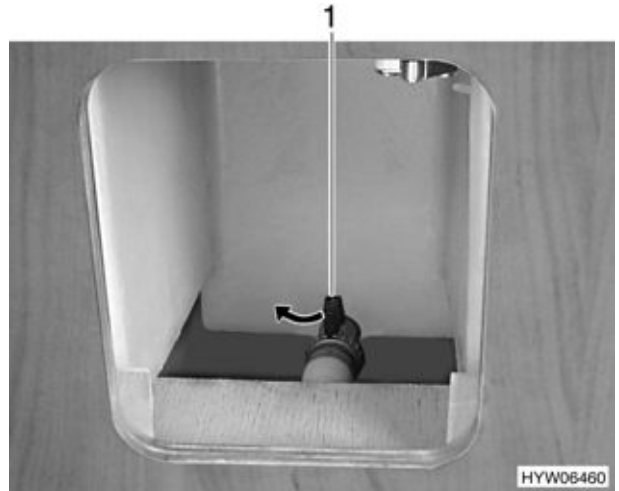

Fig. 161 Water tank, water drain cock, open (variant 2)
Variant 2 (Fig. 161):
- Turn water drain cock (Fig. 161,1) in the direction indicated to close.
- Open water drain cock (Fig. 161,1).